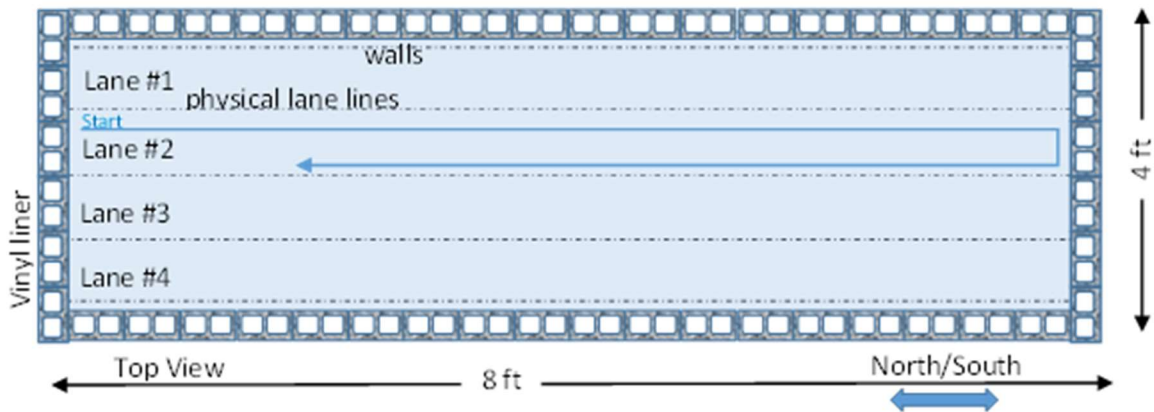

Figure 7 Fresh-water race-course schematic diagram
1. Only one (1) entry (boat assembly) per team will be accepted. A maximum of six people per team will be allowed.
2. Two (2) attempts will be allowed for each heat. Note: It is recommended that students test and redesign their device prior to competition day. “Practice the iterative process of engineering-test-optimize.”
4. Once the boat is held against the wall in the starting position, no further adjustments will be permitted until it reaches the end of the lane where it may be manually reversed by the selected team member. These laps are to be repeated until time runs out. Only one person from each team may handle the boat at the ends. If stuck, the boat direction may be periodically straightened by pushing sideways, bumping using a pole. *However, each contact is penalized by 1 ft. off the total score.* The approximate shallow, 6” to 36” deep, pool course is described in Figure 7.